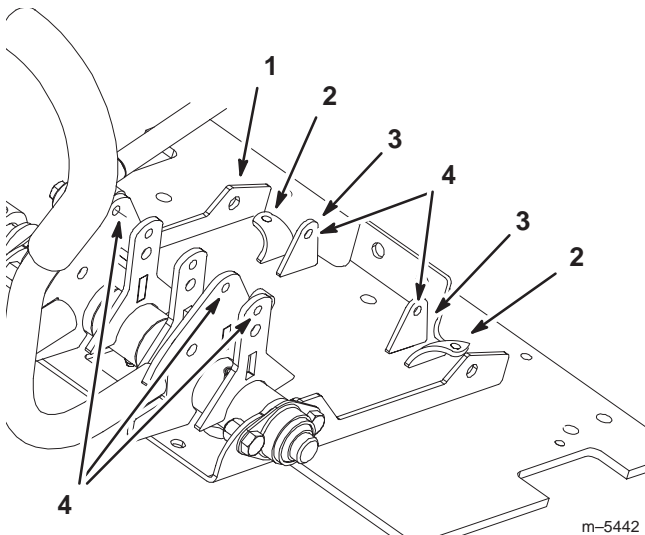

Figure 3
1. Bend the outside tabs on the bracket out. This allows for holes to be drilled and dampers installed (Fig. 3).
2. Drill 11/32 in. holes in the inside tabs. You may have to do this at a slight angle (Fig. 3)